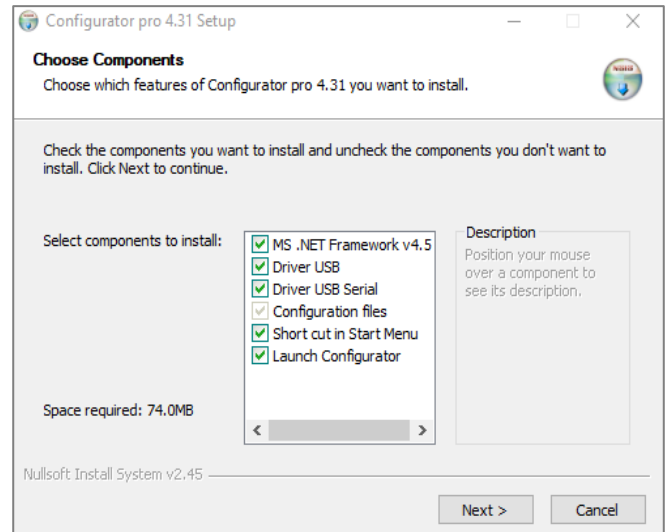

Figure 3.4. The window *Choose components*
3. In the window that opens, leave all the checkboxes selected and click the  button (see figure 3.4).